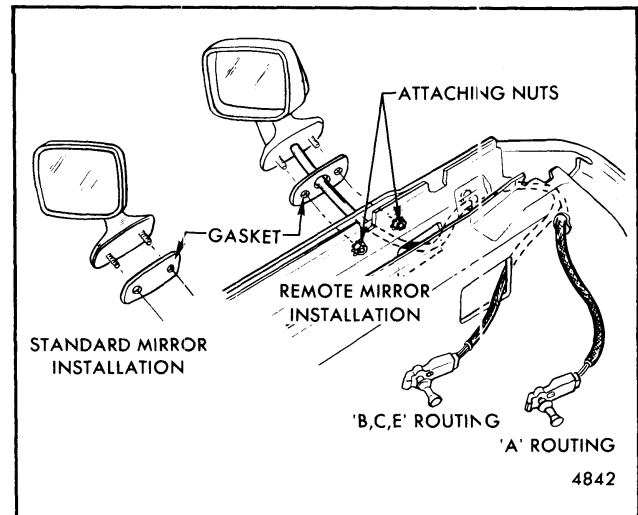

Fig. 5-74-Door Outside Mirror - Typical All "A, B, C and E" Styles
- Remove upper portion of door trim assembly as described in "Door Trim" portion of this section. Then, detach remote cable from retaining tab on outer panel belt reinforcement (Fig. 5-74).
- Remove mirror base to door outer panel stud nuts (Fig. 5-74) and remove mirror and cable assembly from door.
2. Remove mirror base to door outer panel stud nuts (Fig. 5-74) and remove mirror from door.